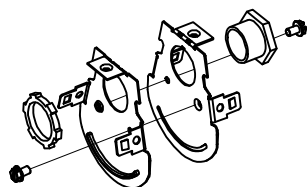

FIG 6: JOINER ASSY
- 2) Remove joining end caps and remove KOs. Secure the endcaps together with customer supplied (2) #8 screws and (1) 1/2" chase nipple to create joiner as shown in FIG 6.